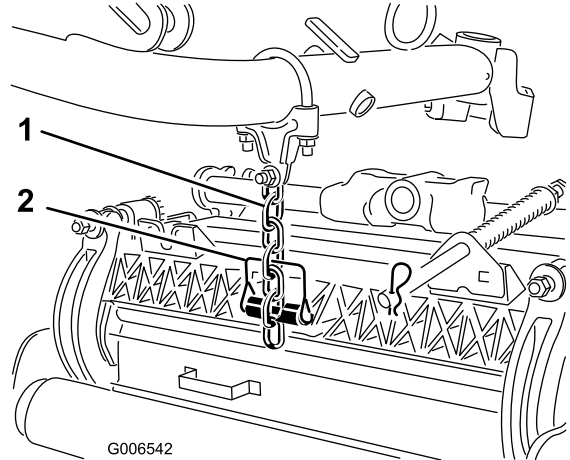

Figure 18
- 7. Secure the lift arm chain to the cutting unit chain bracket (Figure 18) with the snapper pin as follows: